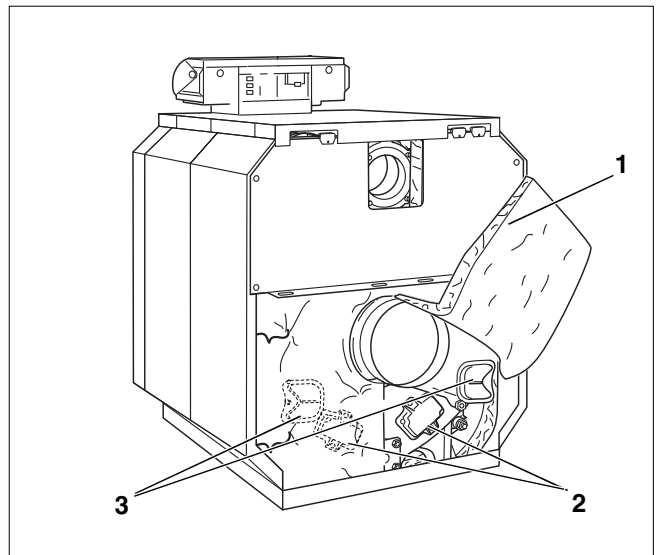

Fig. 67 Removing cleaning covers
- Detach the spring clips below the flue connection, and fold up the two flaps of the thermal insulation and fasten them with the spring clips (Fig. 67, **ref. 1**).
- Remove the cleaning covers from the rear section of the boiler (Fig. 67, **ref. 2**) and the flue socket (Fig. 67, **ref. 3**).